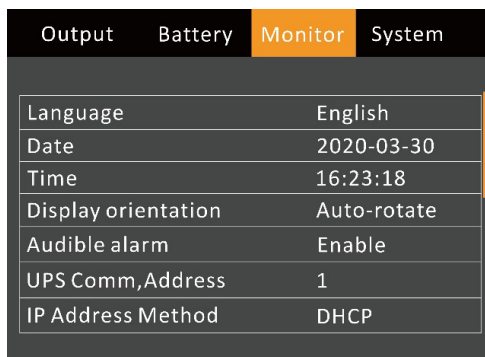

Figure 3-18 Monitor interface
1. Press the  key to move the cursor to the 'Monitor', see Figure 3-18.